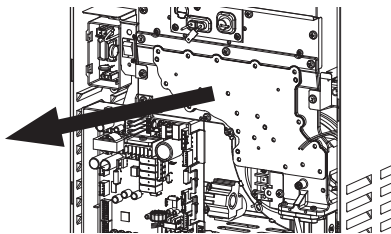

Figure 2
- Remove the manifold plate. (Figure 2)